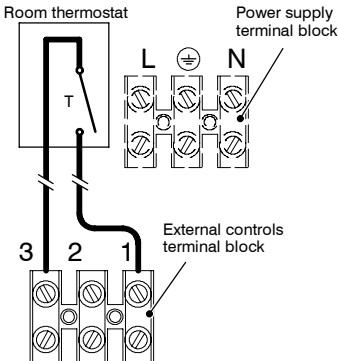

Fig. 6.17
- 8 Connect the room thermostat between terminals 1 and 3 as shown in Fig. 6.17. **Do not connect live wires to terminals to which the room thermostat must be connected.**